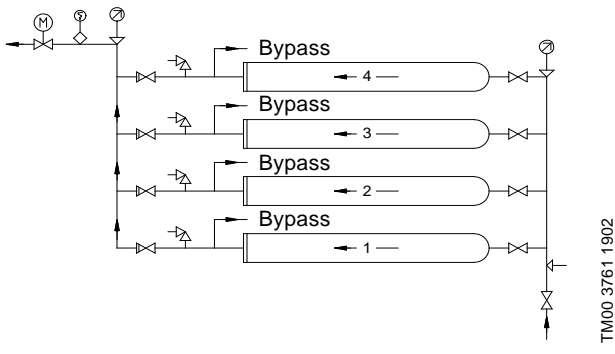

Fig. 6 Booster system with four modules connected in parallel, mounted above each other.
Grundfos booster modules are supplied as standard without built-in non-return valve, but they are available with non-return valve. For the application of a non-return valve, see fig. 6.
- For modules connected in parallel, mounted above each other, it is recommended to connect the pipes as shown in fig. 6. This layout ensures that the modules are filled with water before starting.